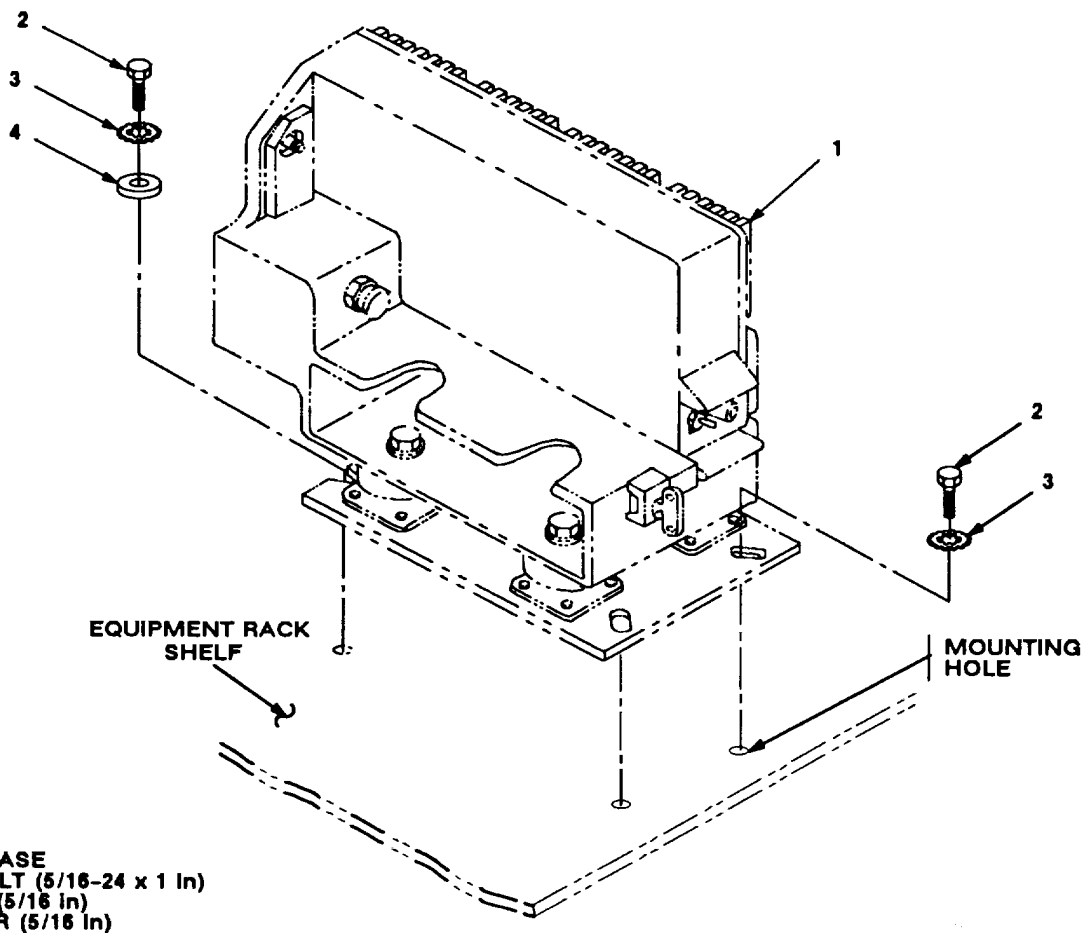

Figure 5-6. MT-6353/VRC Mounting Base Installation
| a. MT-6353/VRC mounting base (1). | Place on equipment rack shelf over mounting holes. See figure 5-6. |
b. MT-6353NRC mounting base (1).	Aline front holes and rear slots with matching hole pattern in shelf. See figure 5-6.
c. Two machine bolts (2) and two IET washers (3).	Install and secure to mounting base (1) front holes.	Tools: 1/2 in socket.
d. Two machine bolts (2), two IET washers (3) and two flat washers (4).	Install and secure to mounting base (1) rear slots.	Tools: 1/2 in open/box wrench.